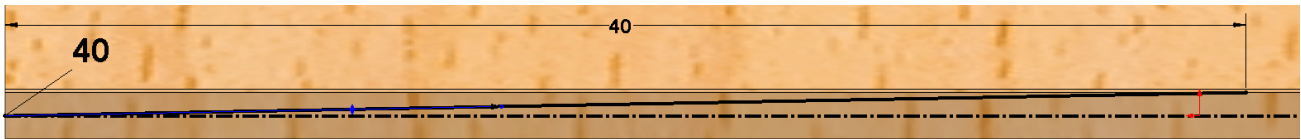

Fig. 23
Step 10. Dimension Spline Point 1 **Tangent Weighting2 40**, Fig. 23. To dimension Tangent Weighting, click the **Circular Spline handle** ●, then move the cursor out away from spline and click. Key-in 40 and press ENTER.